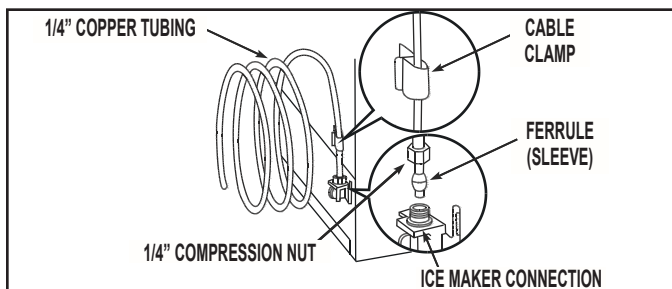

FIGURE 2
6. Disconnect water supply line. See *Figure 2*.